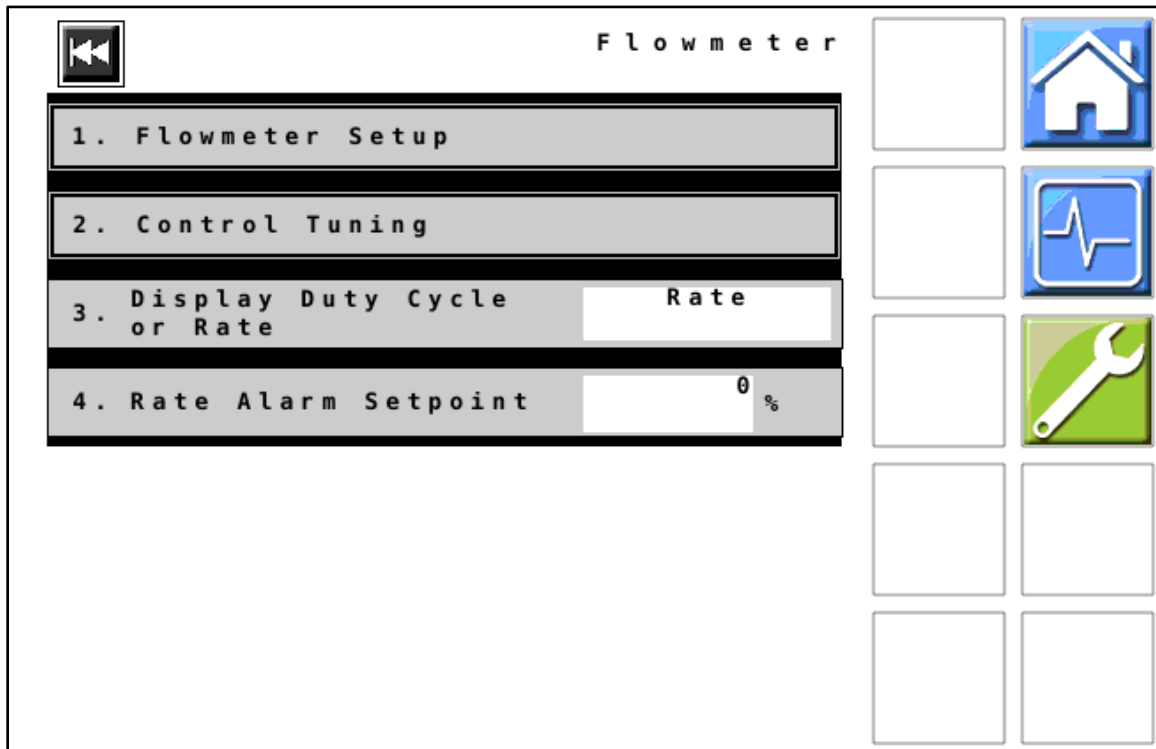

Figure 16 — Flowmeter
28. *Figure 16*: Verify that all values displayed on your unit match those shown here. Change values if necessary